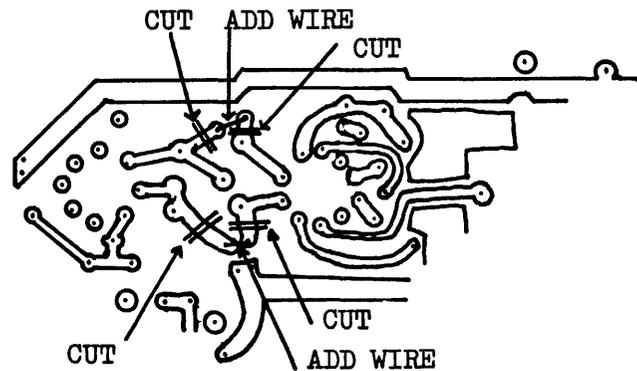

FIGURE 5.
12. Cut four tracks and add two wires as shown in Figure 5.